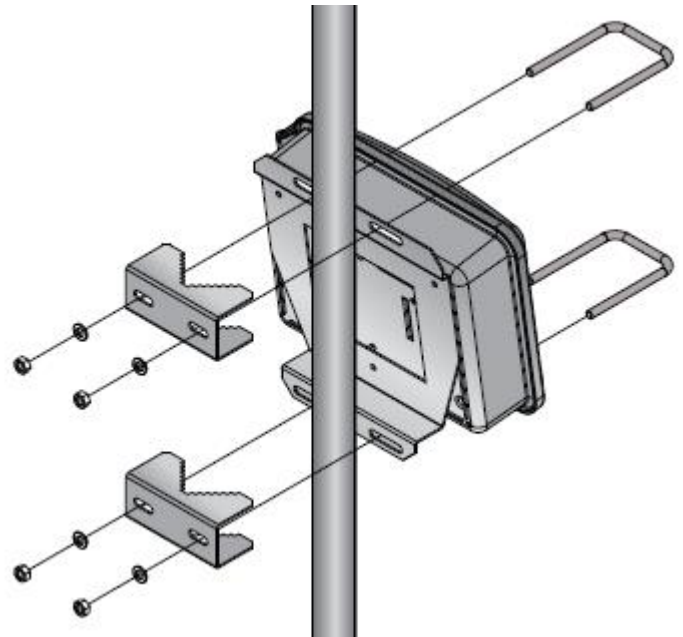

Figure 10: Affixing the Unit to a Pole
- ☀ Affix the unit to a metal pipe of 1 ¼" or 1 ½" diameter using the supplied hanging accessories. As an example, the unit can be affixed to the lower part of the pole to which the antennas are attached (Figure 10).